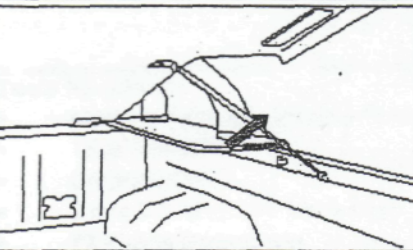

Fig.13
14. Lift up the lid and remove the protective tape from the arrow position. **Refer to Fig. 13.** Repeat process on other side. **Never use a sharp object** to help to remove the protective tape. The moulded insert may require cleaning after the protective tape has been removed. Use polish as per new paint on a new vehicle.